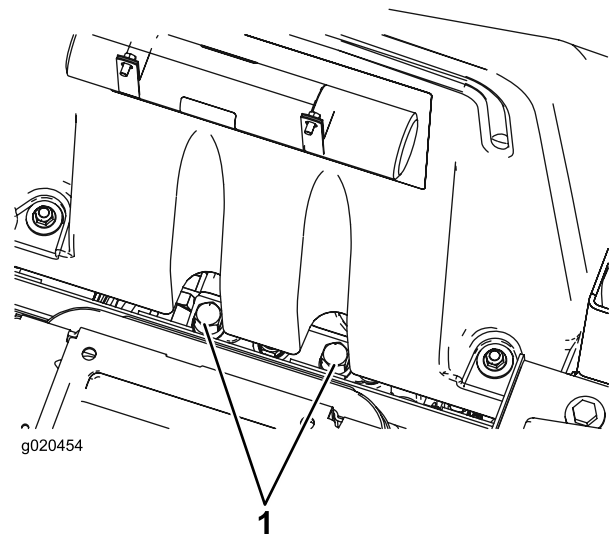

Figure 32
1. Raise the seat. The bypass valves are located below the front of the fuel tank (Figure 32).